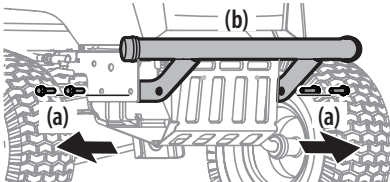

Figure 56
1. Remove the four hex screws (a) securing the front bumper in place. See Figure 56.